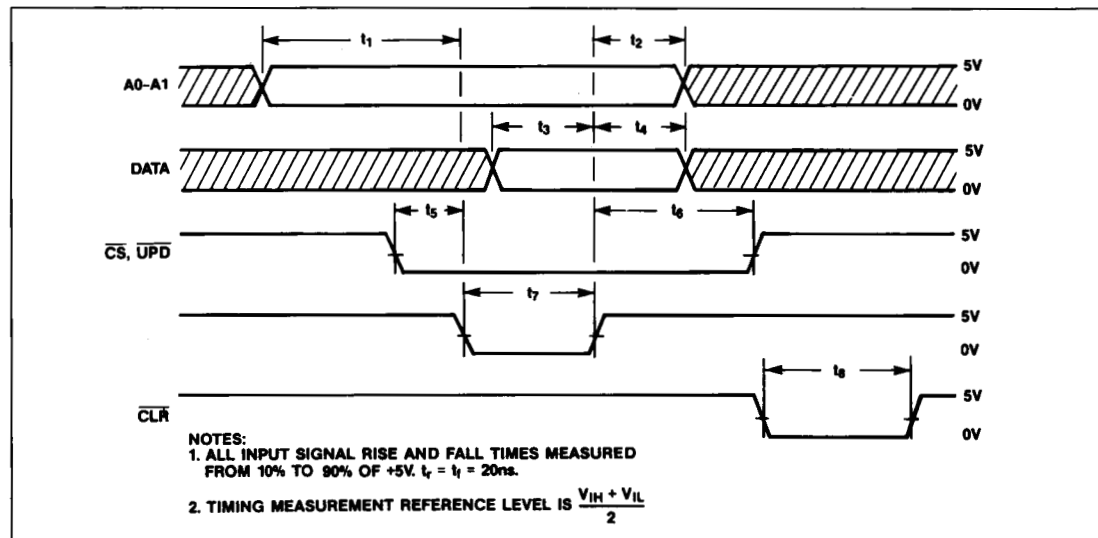

Figure 2. Timing Diagram for MX7537
Figure 2 shows the timing diagram for the MX7537. A1 and A0 select the most-significant (MS) or the least-significant (LS) input registers for DAC A or DAC B (Table 1). When loading the MS register, DB3 is the MSB of the 12-bit data input. Similarly, when the LS register is loaded, DB0 is the LSB. Data is loaded into the DAC when CS and WR both go low. CLR and UPD must be kept high while the data is loaded. When CLR is low, all registers are cleared without regard to the state of other control signals. When UPD and WR are low, the DAC registers are updated simultaneously from the input registers. When UPD, CS and WR are low, the DAC registers are transparent and load the